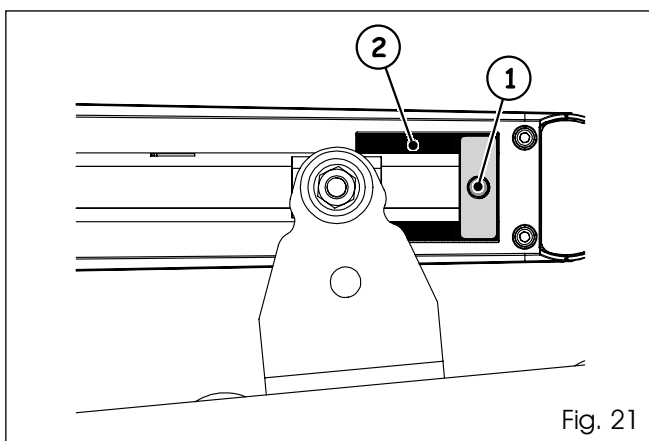

Fig. 21
3. Loosen the bolt, Fig. 21 ref. 1. The bolt does not need to be completely removed.
*The mechanical stop is coupled to a toothed section on the operator's body, Fig. 21 Ref. 2. In case of difficulties moving the stop check that the coupling is free. **Do not force it.***